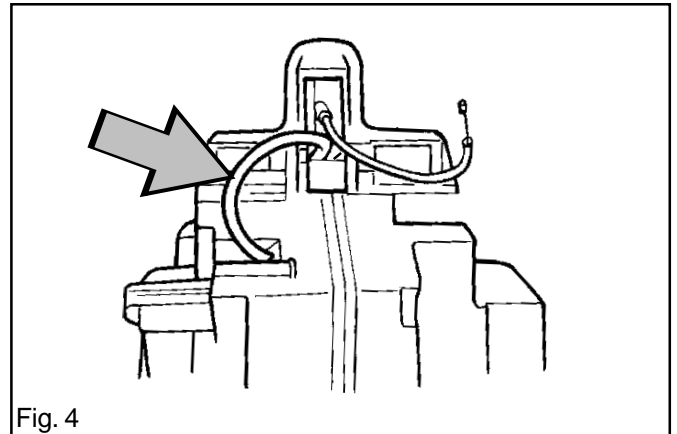

Fig. 4
See fig. 4.
- C Turn the pipe so that it bends upwards. See fig. 4.
- Measure the wear on the piston ring by placing it at the bottom of the cylinder and measuring the gap. See fig. 4. The clearance must not exceed 1 mm.